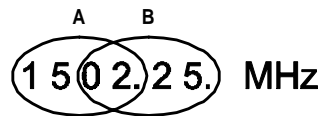

Figure 8. L-Band frequency low and high-resolution display
**L-Band frequency:** (see Figure 8) For example; if a current L-Band frequency is 1502.25 MHz, changing to Alt-1 Mode (ALT LED flashes) and pressing 4 (to display Lb1 or Lb2), and then pressing 7 displays the four most significant digits on the front panel (i.e., 1502.). At low resolution (A), pressing the up  $\uparrow$  or down  $\downarrow$  arrow button advances the frequency up or down in 1 MHz steps (i.e., 1503., 1504., and so on). Pressing and holding down the up  $\uparrow$  or down  $\downarrow$  arrow button will increase the step size further.